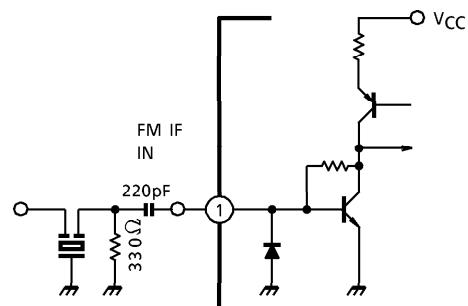

Fig.1
The terminal pin① is the FM-IF input terminal which is the base of common-emitter transistor. (Fig.1)
(2) FM-IF stage